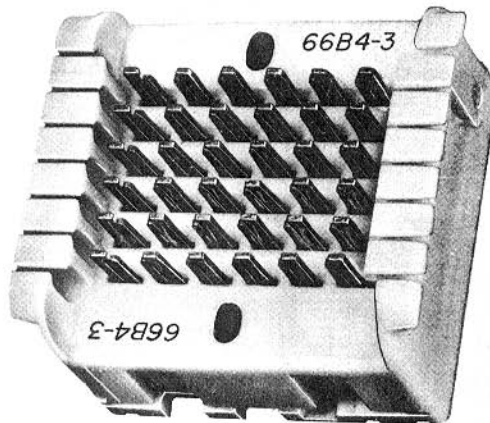

Fig. 7—66B6-3 Connecting Block
1.02 This section is reissued to add information on the 66B6-3 connecting block (Fig. 7).
1.03 The 66B6-3 connecting block is a 66B4-3 connecting block equipped with a cover (Fig. 7). On the inside of the cover is a place to list the location of the stations fed by each pair of wires.